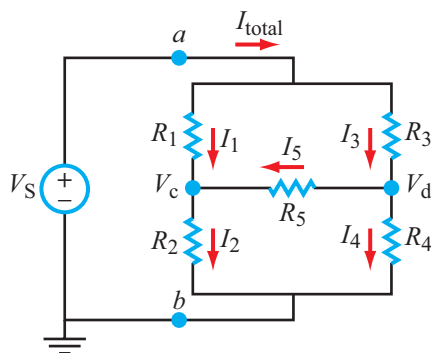
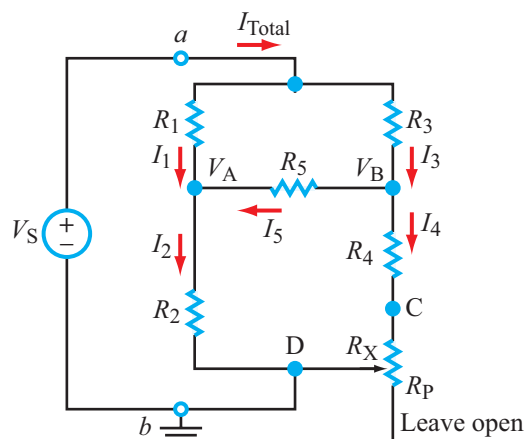

Figure 18: Resistor circuit for equivalent resistance.
Figure 19: Resistor circuit including a variable resistor.
4. In the lab, you will build the circuit in Figure 18 and measure currents through resistors, node voltages, and the equivalent resistances. Assume $V_S = 6\text{ V}$ and the following resistances:
5. The circuit shown in Figure 19 is built with the same resistors as the circuit shown in Figure 18, except for the addition of the variable resistor R_X . Determine the value of R_X such that the current I_5 vanishes.